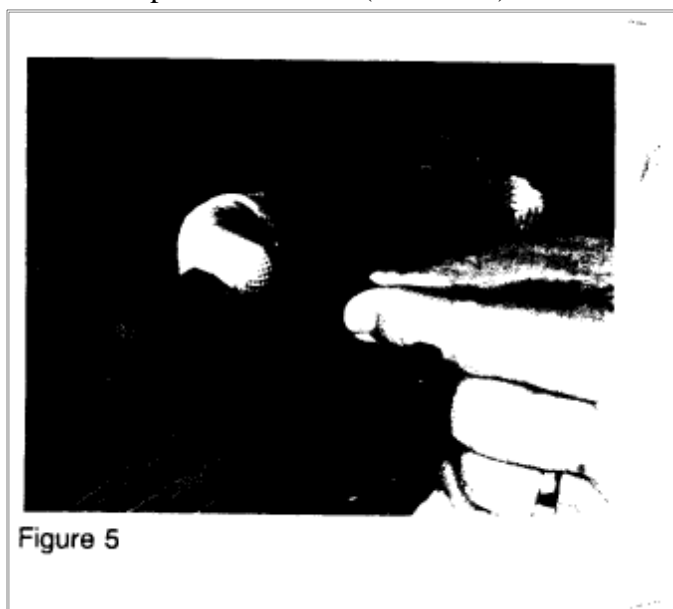

Figure 5
10. Insert tab at rear of trim piece into the hole provided for it at the rear corner of the roof panel (Figure 5).